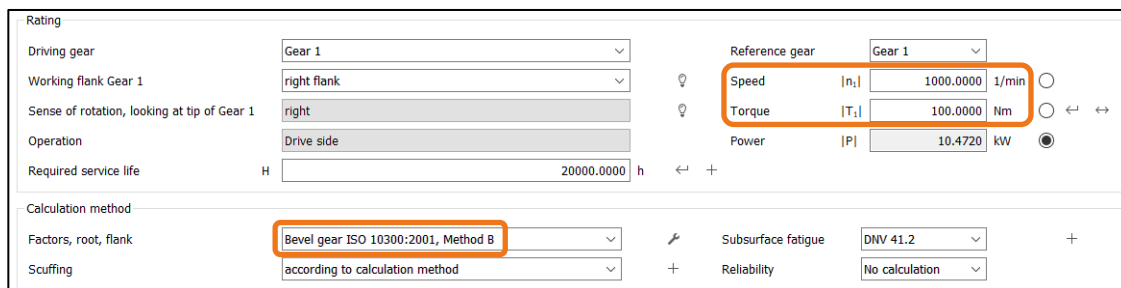

Figure 10. Inputting performance data
2. Then input the power data and the required calculation standard in the «**Strength**» tab (see Figure 10).